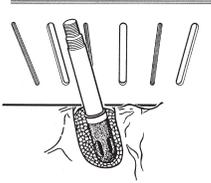

Fig. 3
2. Thread the Alignment Pin by hand directly into the divergent implant (or implant analog on a stone model) being careful not to cross-thread the pin. Place the stainless steel Angle Measurement Guide (Zest order #9530) behind the Alignment Pin, level with the path of prosthesis insertion, to determine the divergence in degrees. (Fig. 3) An additional Alignment Pin can be placed into an adjacent non-divergent implant to determine the difference in the angle between it and the divergent implant.